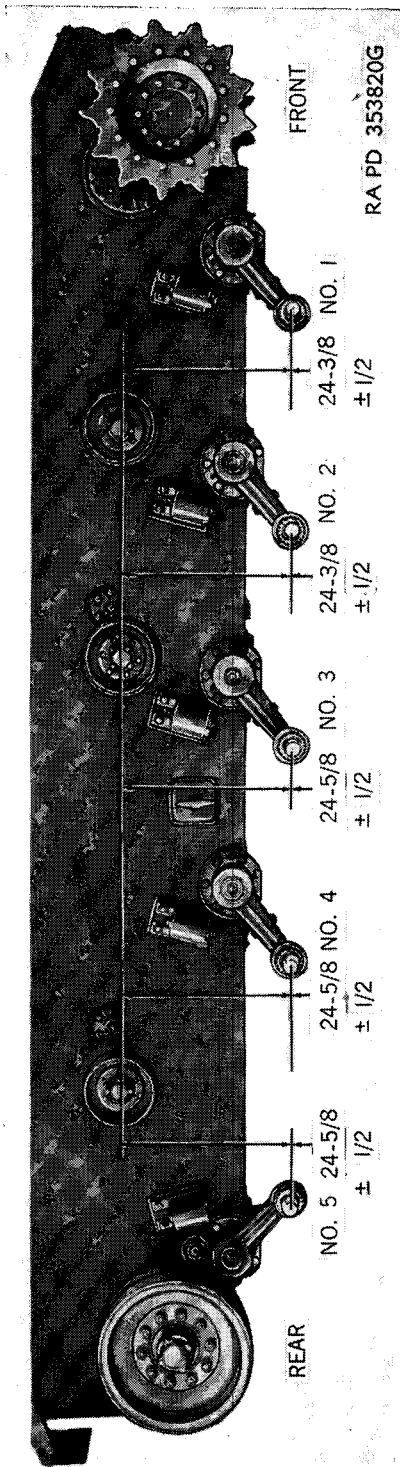

Figure 149. Torsion bar and support arm serviceability limits.
- (1) *Disconnect shock absorber.* Disconnect shock absorber at lower end (par. 180).
- (2) *Remove track wheel.* Remove track wheel by using hydraulic jack or lifter—41-L-1400 (par. 176).
- (3) *Inspect torsion bars and support arm.* Remove track wheel hub (par. 176). Check backlash or free movement of support arms at the arc of wheel spindle. Backlash should not exceed three-eighths of an inch. Raise support arm by hand to take up backlash and check the distance from center of spindle to center line of track support rollers. If the distance is less than shown in figure 149, the torsion bar may be distorted or support arm may be bent. If installation of a new torsion bar does not correct the condition, the support arm must be replaced.
- (2) *Install torsion bars.* Slide the correct torsion bar into the tunnel until the inner end of the bar contacts the anchor. Examine the outer end of the torsion bar and rotate it until the small slot that is cut in the chamfer is straight up. This will insure the blind spline at the anchor end of the bar also being straight up, a requirement for proper entry of the bar into its anchor. Gently tap the bar into the anchor with a soft hammer. If the bar will not enter readily, loosen the cap screws which hold the anchor supporting plate and make certain that the four cap screws are loosened approximately the same amount. The two cap screws which hold the anchor to the supporting plate do not have to be loosened. After the torsion bar has entered the anchor, raise the support arm until the small slot in the outer edge of the arm lines up with the blind spline in the outer end of the torsion bar. The torsion bar can then be tapped all the way into place. Install the torsion bar retaining nut and tighten it to 75 foot-pounds torque. Install the cap screw in the retaining nut and tighten it to 65 foot-pounds torque. Tighten the torsion bar anchor plate screws to 35 foot-pounds torque.
- (3) *Inspect torsion bars and support arm.* Check backlash and/or torsion bar set (*a* above) (fig. 149). Install track wheel hub.
- (4) *Install track wheel.* Install track wheel using hydraulic jack or lifter—41-L-1400 (par. 176).
- (5) *Connect shock absorber.* Connect shock absorber lower end to support arm (par. 180).